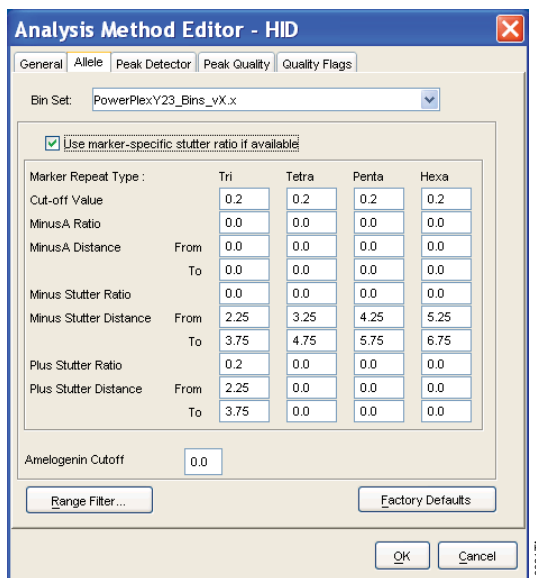

Figure 20. The GeneMapper® ID 'Allele' tab with settings for using a 20% peak filter.
6. Select the 'Allele' tab (Figure 20).
8. Ensure that the "Use marker-specific stutter ratio if available" box is checked. Ensure that the appropriate global filter is applied to this analysis method. For example, for a 20% filter enter "0.20" for the Global Cut-off Value for Tri, Tetra, Penta and Hexa repeats (Figure 20).
- Enter the values shown in Figure 20 for proper filtering of peaks when using the PowerPlex® Y23 System. For an explanation of the proper usage and effect of these settings, refer to the Applied Biosystems user bulletin titled “Installation Procedures and New Features for GeneMapper ID Software 3.2”.